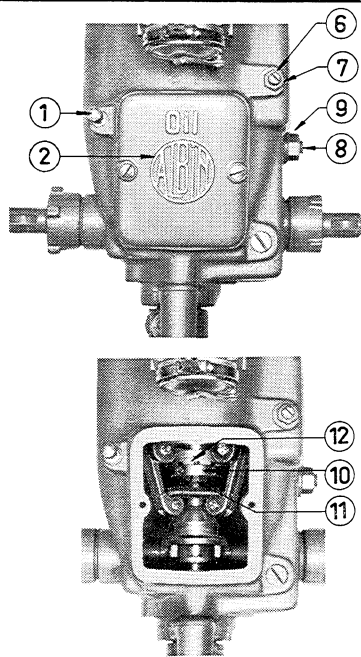

Fig. 21
If slipping occurs when running astern, this can be eliminated by adjusting the screw 6 fig. 21.
- 1 Slacken the locking nut 9, fig. 21.
- 2 Slacken the stop screw 11, fig. 21, until it is clear of the groove in the locking washer 12.